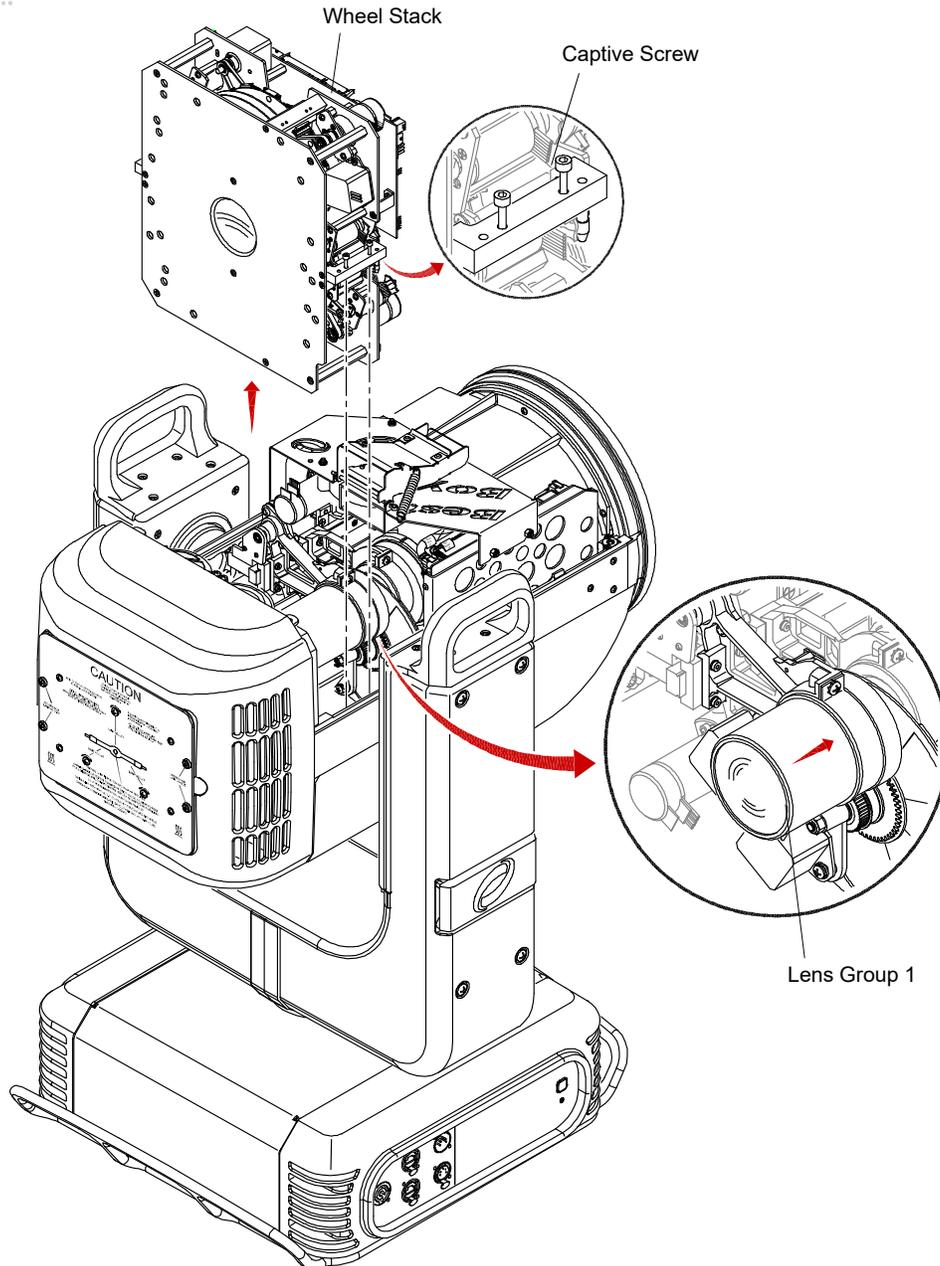

Figure 3-25: Removing Wheel Stack
- Step 5. At Wheel Stack, loosen captive screws (**Figure 3-25**).